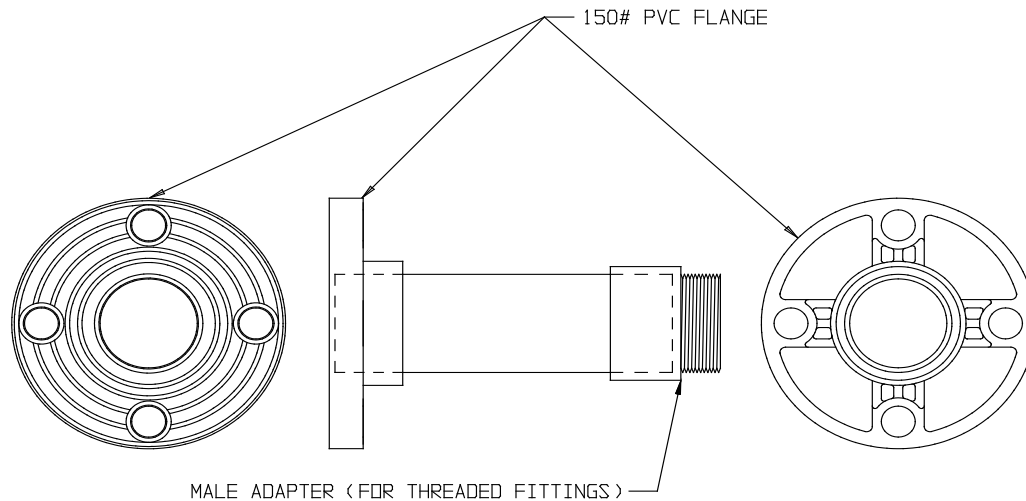

Figure 7.12
7.12.1 Standard flange adapters are constructed from PVC or CPVC and may be purchased for solvent weld socket fittings or threaded fittings. Flange adapters for threaded fittings are provided with loose male adapter to allow the customer to adjust adapter length and flange position to match the piping at the installation. Refer to Figure 7.12 for an illustration of a flange adapter.